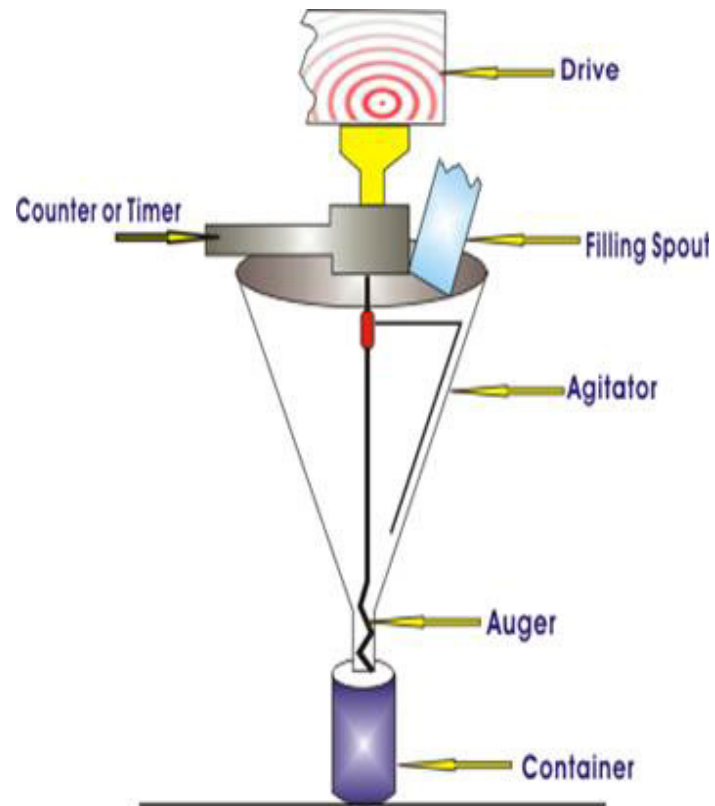

Figure 20.23 Auger filler
- Use a rotating auger in a funnel shaped hopper to deliver a specific amount of product at a constant rate(Figure 20.23).